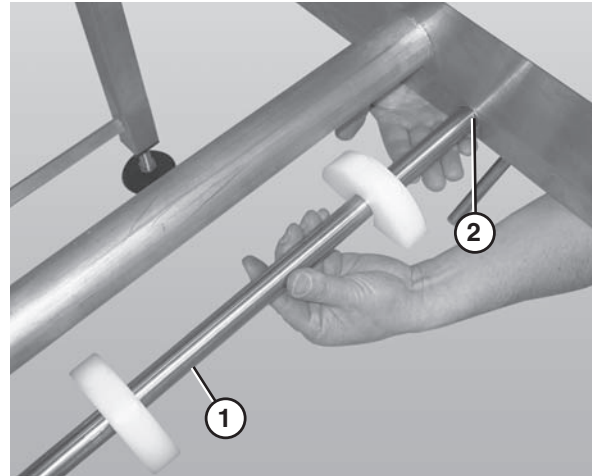

Figure 53
1. Remove the belt returns by pushing up on the return shaft (**Figure 53, item 1**) and sliding it through the large hole (**Figure 53, item 2**) in the frame.
2. Lower the opposite end of the return shaft (**Figure 53, item 1**) and slide it out of the frame.